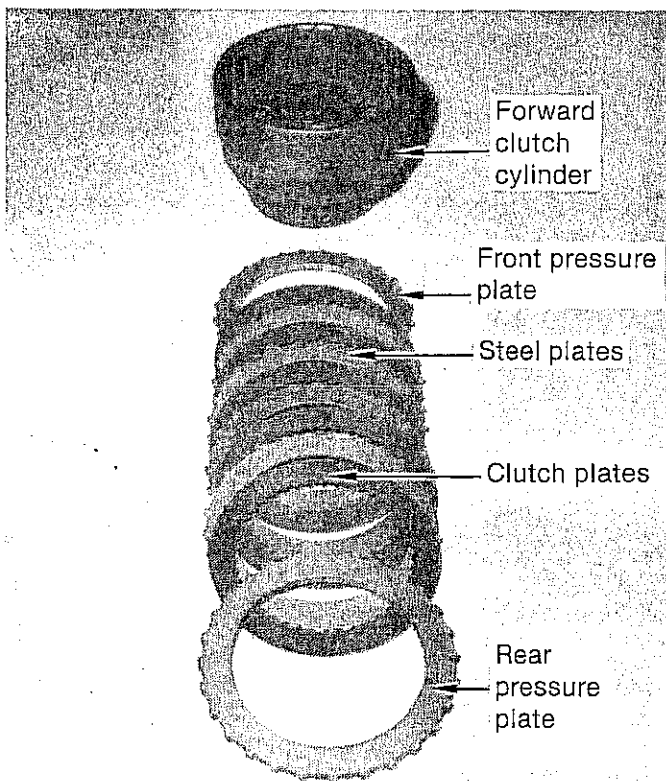

FIGURE 31
STEP 1. Remove the snap ring holding the backing plate in place with a screwdriver. Remove the thick rear pressure plate. Remove three to five forward clutch plates and two to four steel plates. Remove the thick front pressure plate. (See Fig. 31)
III. Forward Clutch (Refer to Figures 31 and 32)